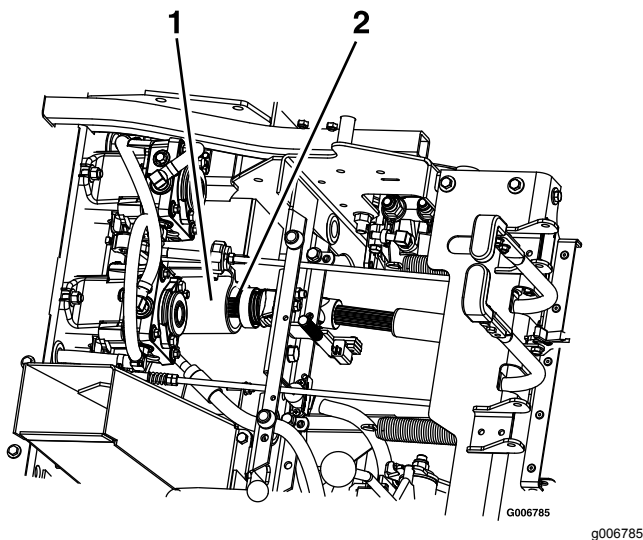

Figure 81
9. Unlatch the seat and disconnect the drive shaft using the quick coupler at the jackshaft (Figure 81). Refer to Unlatching the Seat (page 19)
5. Install the drive shaft onto the jackshaft (Figure 81).